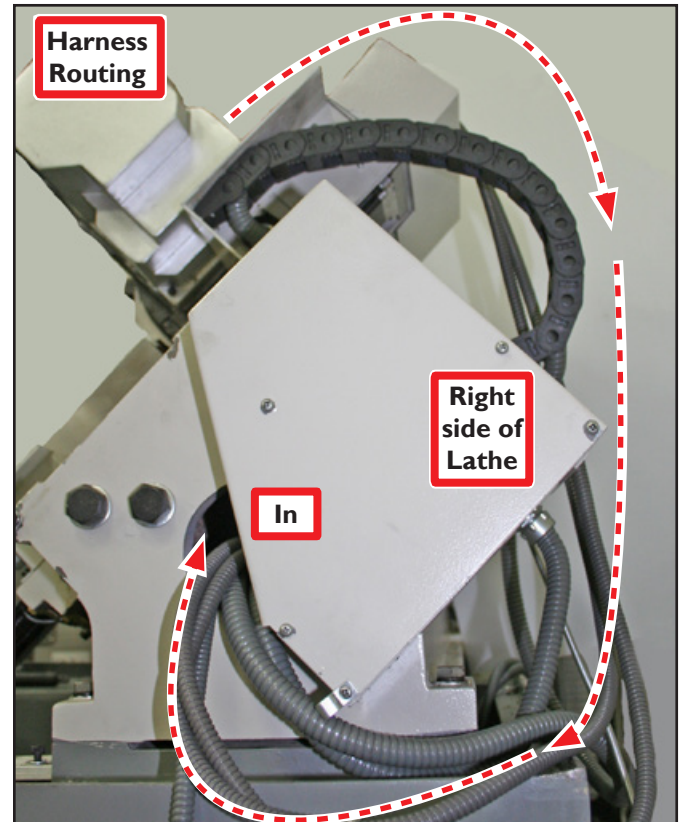
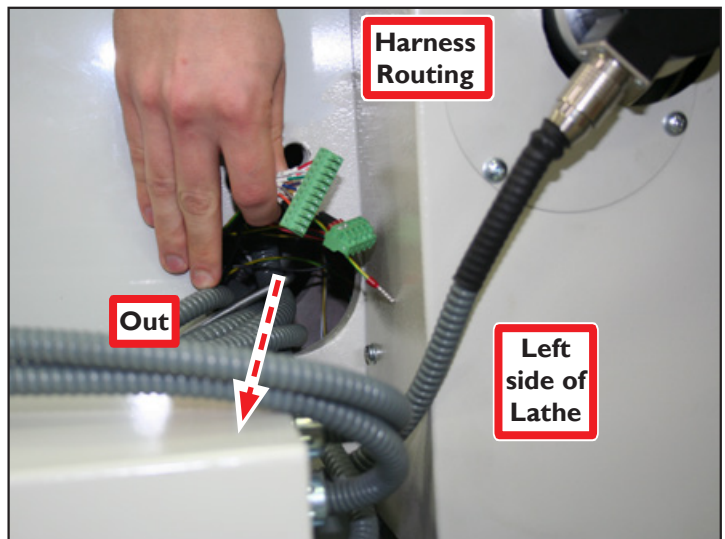

Figure 7
Figure 8
2. Route harness through lathe casting as shown in **Figure 7** and **Figure 8**.